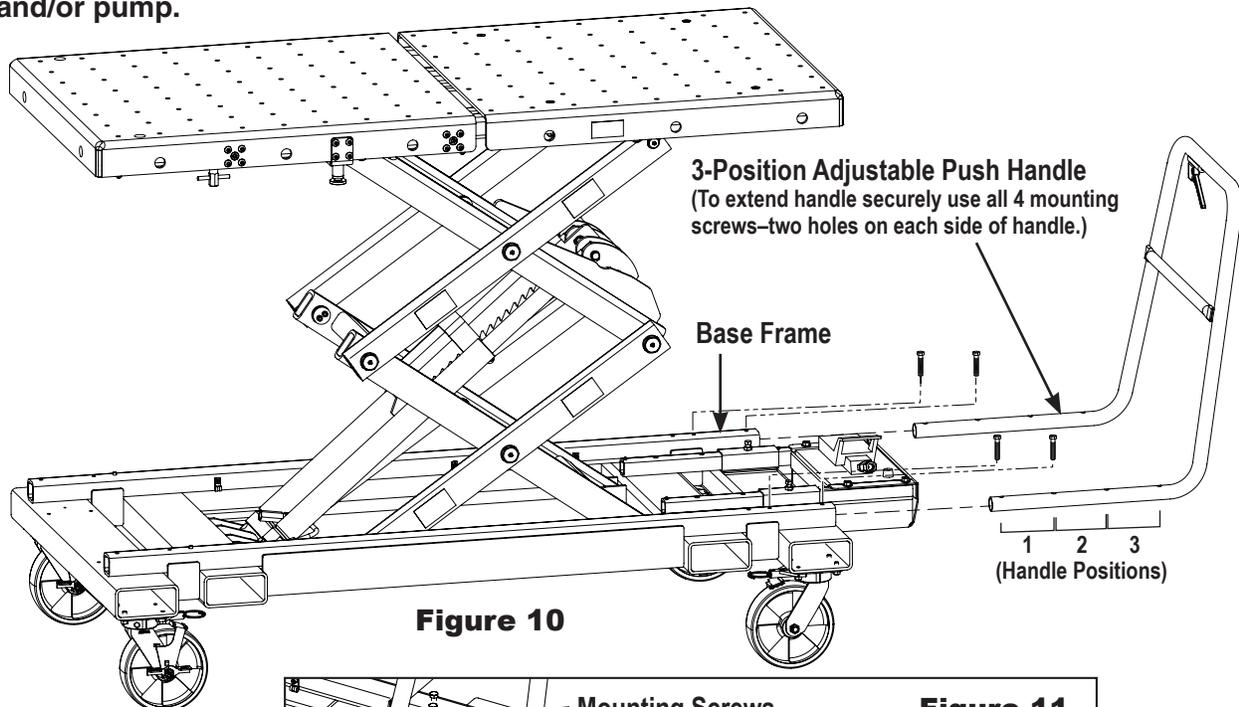

Figure 10
8. Open the carton and locate the Push Handle and its 4 mounting screws. Install the handle by inserting into the Base Frame. Thread mounting screws into holes and through aligning holes in the Push Handle tubing. Torque screws to 15 ft-lb (20 N•m). See Figure 10.
If the load extends beyond the platform it may be necessary to extend the pump supports and the push handle to avoid the load from obstructing the use of the handle or the pump. Ensure that all 4 of the supplied screws are engaged through the preset adjustment holes in both the handle and base frame at all times. Torque handle and pump support screws to 15 ft lb (20 N•m). See Figures 10 and 11.